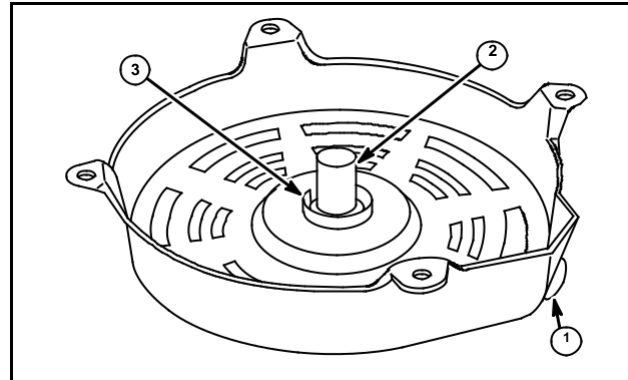

Fig. 45
Inspect starter housing for wear or burrs at rope eyelet (1), center pivot post (2), and at inner spring retainer (3), Fig. 45. Replace if worn.